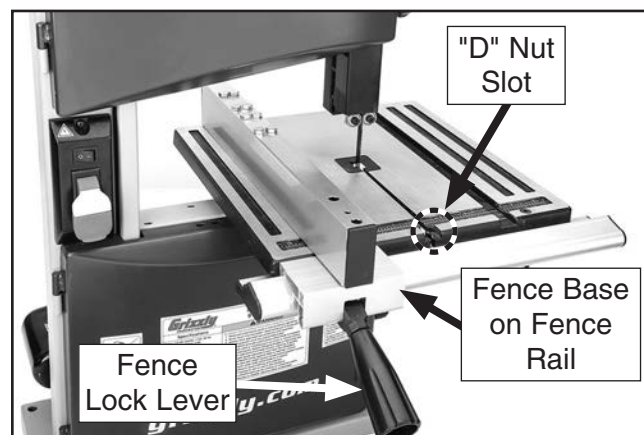

Figure 16. Fence installed on fence rail.
9. Insert "D" nut into slot shown in **Figure 16**.
11. Pull fence lock lever up and place fence assembly onto fence rail, making sure it snaps into place, then push lock lever down to secure fence (see **Figure 16**).